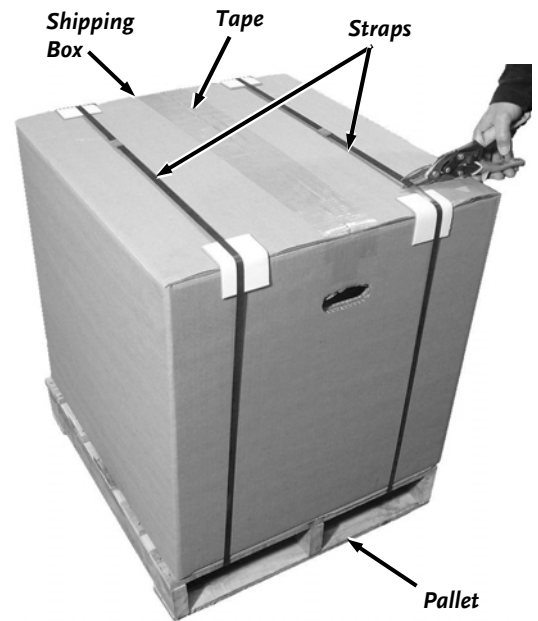

Figure 2
1. Cut the Banding from around the Shipping Box and Pallet (**Figure 2**).